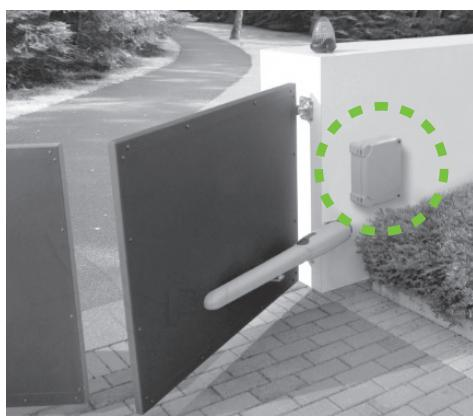

FIG.3
- On swing gates or overhead doors the control unit is usually housed in the box close to the automation system (Fig.3).